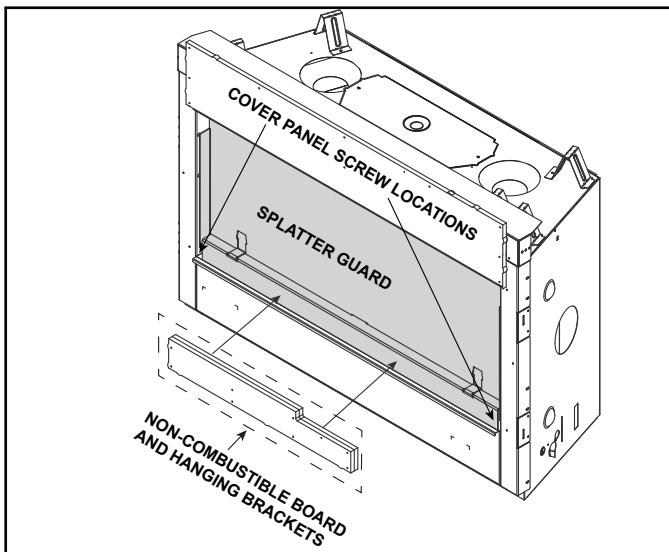
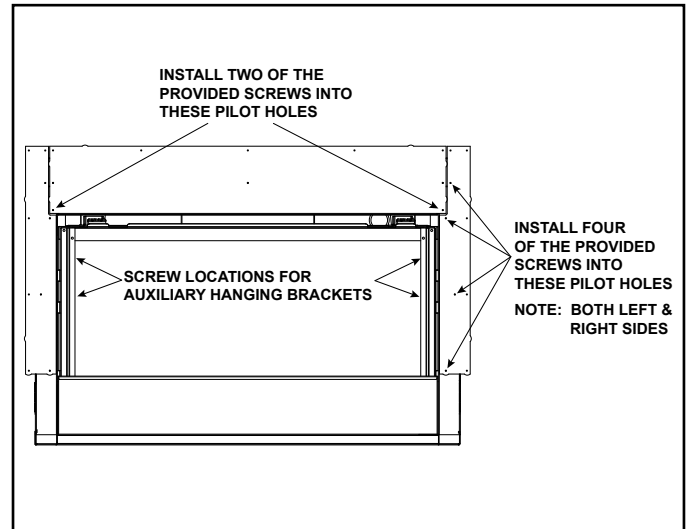
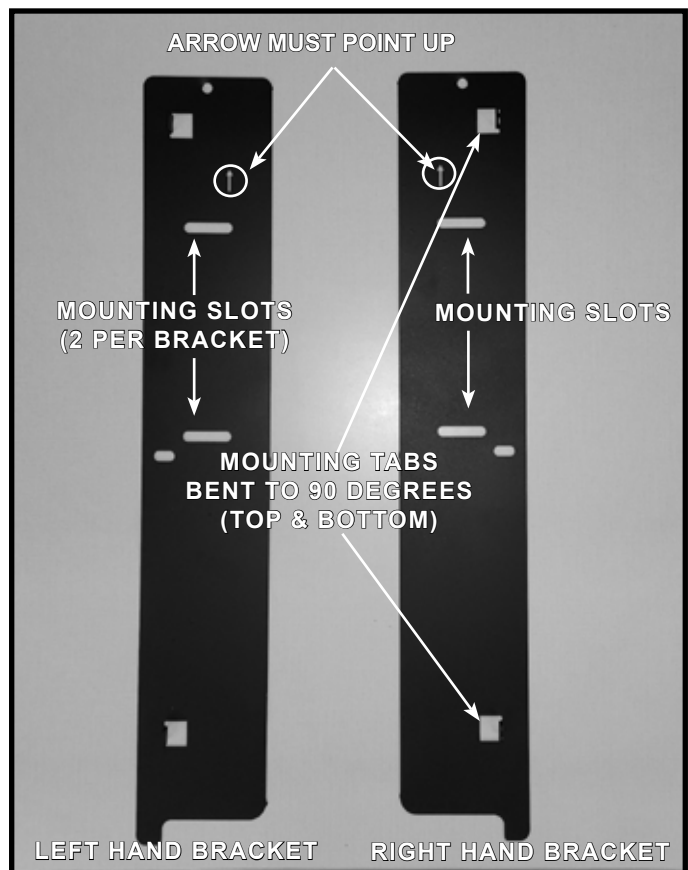

Figure 6.7 Shipping Position - Non-Combustible Sides and Auxiliary Hanging Brackets
Figure 6.8 Installation of the Side Non-Combustible Components
Figure 6.9 Auxiliary Hanging Brackets
This model ships with the required top, left and right non-combustible board. The top non-combustible board has been pre-installed at the factory with three screws. The left and right side non-combustible boards are shipped next to the non-combustible board inside the cardboard splatter guard in front of the appliance. See Figure 6.7.
4. Further secure the top non-combustible board by installing screws into the pilot holes located in the upper left and right corners of the top non-combustible board as shown in Figure 6.8.
5. Install the left and right non-combustible components with four of the provided Phillips screws. See Figure 6.8. After all non-combustible material has been installed, remove the small package of sheet metal screws from the manual bag. Reinstall the lower cover panel. Be sure to “hook” it onto the appliance. Use two screws from the package to fasten the top sides of the cover panel to the appliance. The holes from the cover panel should align with the holes in the sides of the appliance. See Figure 6.7.
1. Loosen both shoulder bolts on each auxiliary hanging bracket. See Figure 6.8 and Figure 6.9. Pull the brackets away from the appliance to aid with finishing material installation.